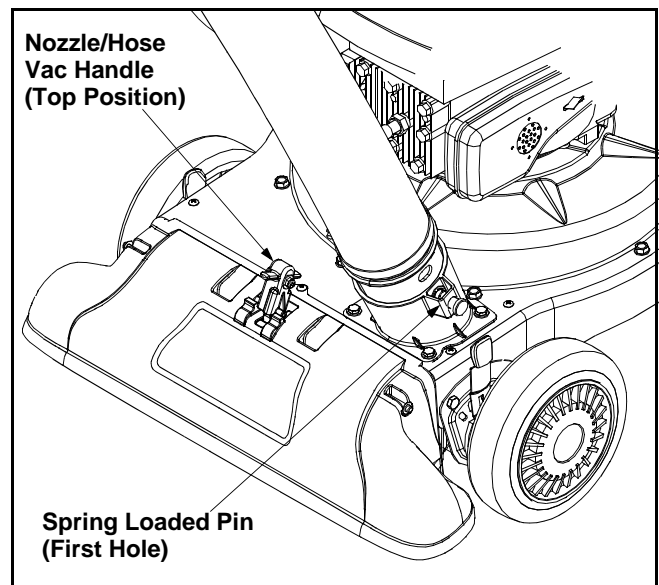

Figure 8
- Place nozzle/hose vac handle in the top position on the nozzle to vacuum through nozzle. See Figure 8.